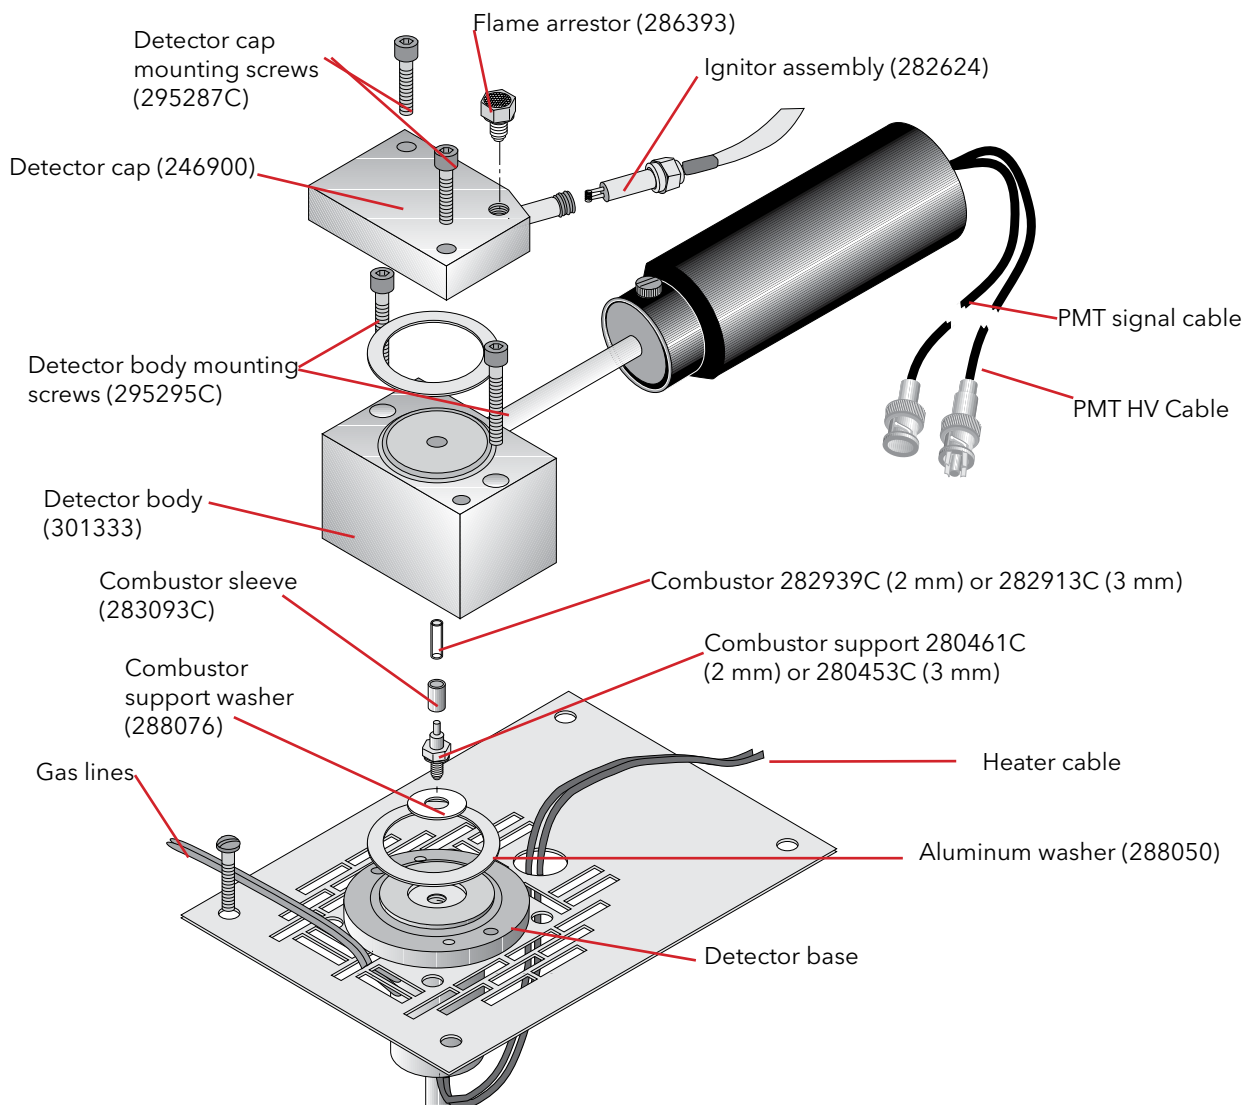

Figure 3.35. Model 5383 PFPD Assembly
1. Using the 7/64 Allen wrench supplied in the PFPD startup kit, remove the two detector cap screws (PN 295287C) from the detector cap (PN 246900) (Figure 3.35).
5. Use the 7/64" Allen wrench to remove the two detector body screws from the detector body (Figure 3.35).
Place a new aluminum washer (PN 288050) on the detector body. Use clean metal forceps to place and center the new washer on the center hole in the detector body (Figure 3.35).